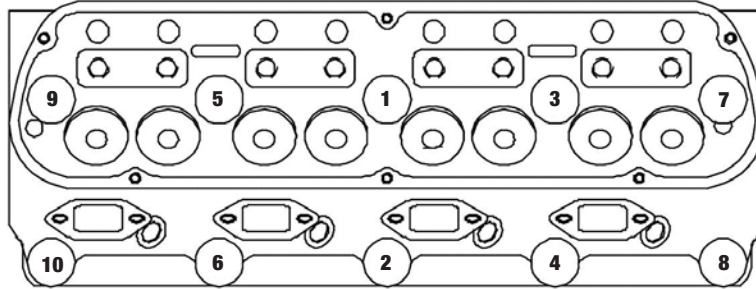

Figure 3 - Head Bolt Tightening Sequence
- Installation is the same as for original equipment cylinder heads. Consult service manual for specific procedures, if necessary. Head gasket recommendations are listed in the head gasket section. Be sure that the surface of the block and the surface of the head are thoroughly cleaned to remove any oily film before installation. Use alcohol or lacquer thinner on a lint-free rag to clean. Apply moly-oil mixture to head bolt threads, washer, and area under head bolt to prevent galling and improper torque readings. Torque to 70 ft./lbs. for 7/16" bolts (289/302) or 100 ft./lbs. for 1/2" bolts (351-W) in three or four steps following the factory tightening sequence (**see Figure 3**), then tighten the long (upper) head bolts to 80 ft./lbs. (7/16") or 110 ft./lbs. (1/2"). A re-torque is recommended after initial start-up and cool-down (allow 2-3 hours for adequate cooling).